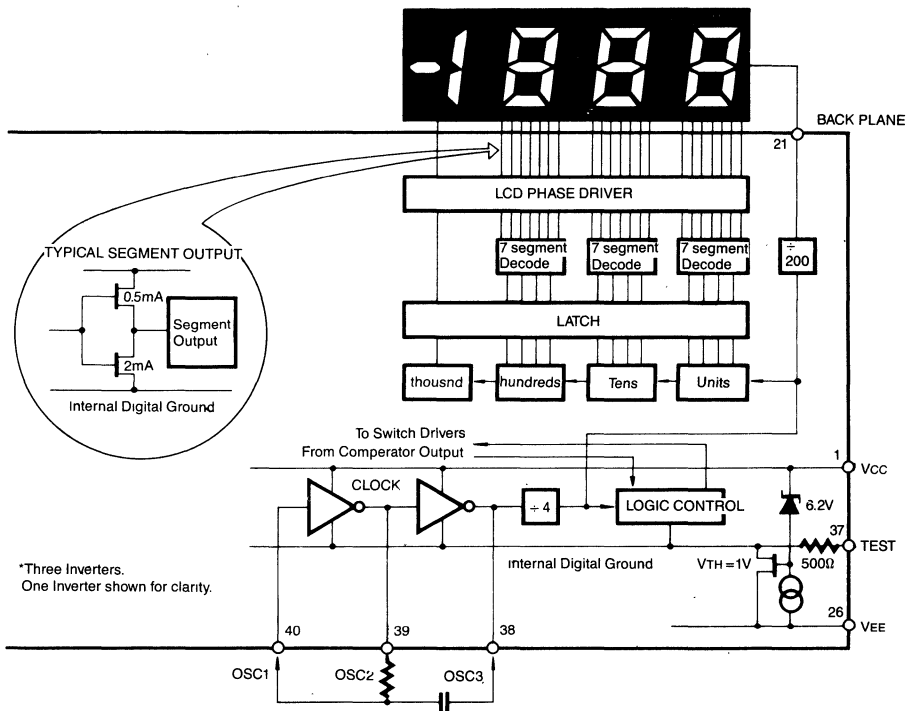

Fig. 7: Digital Section
Fig. 7 shows the digital section for the KS7126. An internal digital ground is generated from a 6 volt zener diode and a large P channel source follower. This supply is made stiff to absorb the relative large capacitive current when the back plane (BP) voltage is switched. The BP frequency is the clock frequency divided by 800. For three readings/second this is a 60Hz square wave with a nominal amplitude of 5 volts. The segments are driven at the same frequency and amplitude and are in phase with BP when OFF, but out of phase when ON. In all cases negligible DC voltage exists across the segments. The polarity indication is "ON" for negative analog inputs. If IN - and IN + are reversed, this indication can be reversed also, if desired.